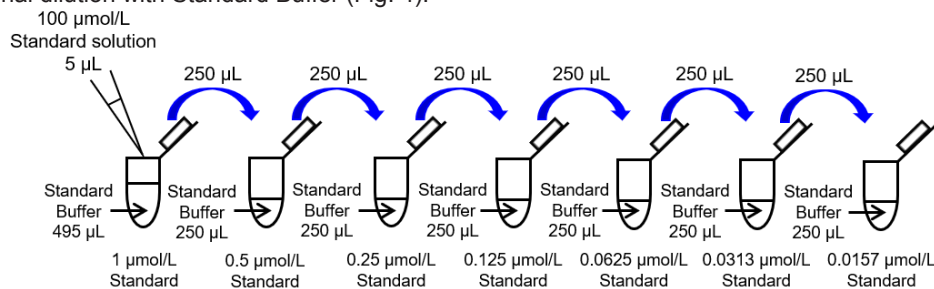

Fig. 4 Preparation of Standard solution
- (1) Mix 2 μL of 10 mmol/L Standard stock solution and 198 μL of ddH₂O in a microtube to prepare a 100 $\mu\text{mol/L}$ Standard solution.
- (2) Mix 5 μL of 100 $\mu\text{mol/L}$ Standard solution and 495 μL of Standard Buffer in a microtube to prepare a 1 $\mu\text{mol/L}$ Standard solution. Prepare Standard solutions (1, 0.5, 0.25, 0.125, 0.0625, 0.0313, 0.0157 and 0 $\mu\text{mol/L}$) as follows by serial dilution with Standard Buffer (Fig. 4).